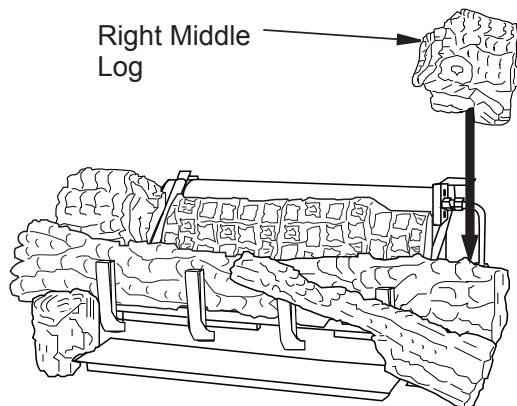

Figure 33 - Installing Right Middle Log
6. The right middle log has a groove on the bottom to sit on the chassis and has to sit on the tab on the back of the right front. The right middle log should have a recess area that fits around the ramp log as shown in **Figure 33**.